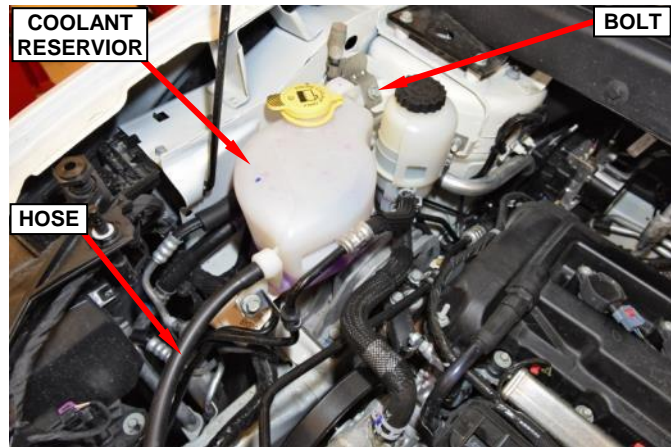

Figure 73 – Coolant Reservoir
28. Remove and save the coolant reservoir retaining bolt (Figure 73).
29. Disconnect the coolant reservoir hose from the radiator inlet hose (Figure 73).
30. Remove and save the coolant reservoir (Figure 73).